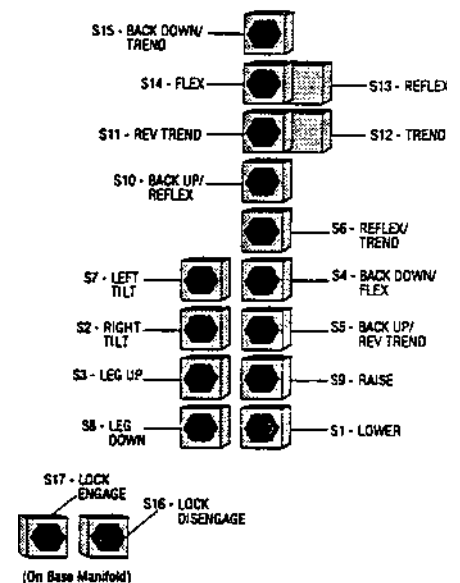

Figure 8-3. Valve Functions
There are 15 cartridge valves on the column and two on the base. See Figure 8-3 for valve function.
6. Check the function of the valve which was replaced to make sure it works smoothly (see Figure 8-3).